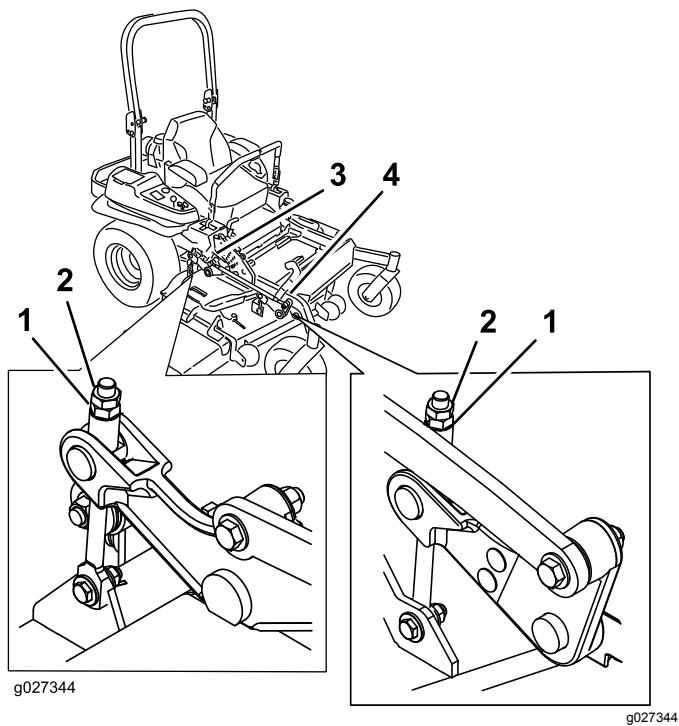

Figure 101
10. Fine-tune the adjustment nut on the front deck-lift assembly by turning it (Figure 101).
16. Fine tune the screw adjuster by turning it to get 8.3 mm (3-1/4 inches) height (Figure 101).